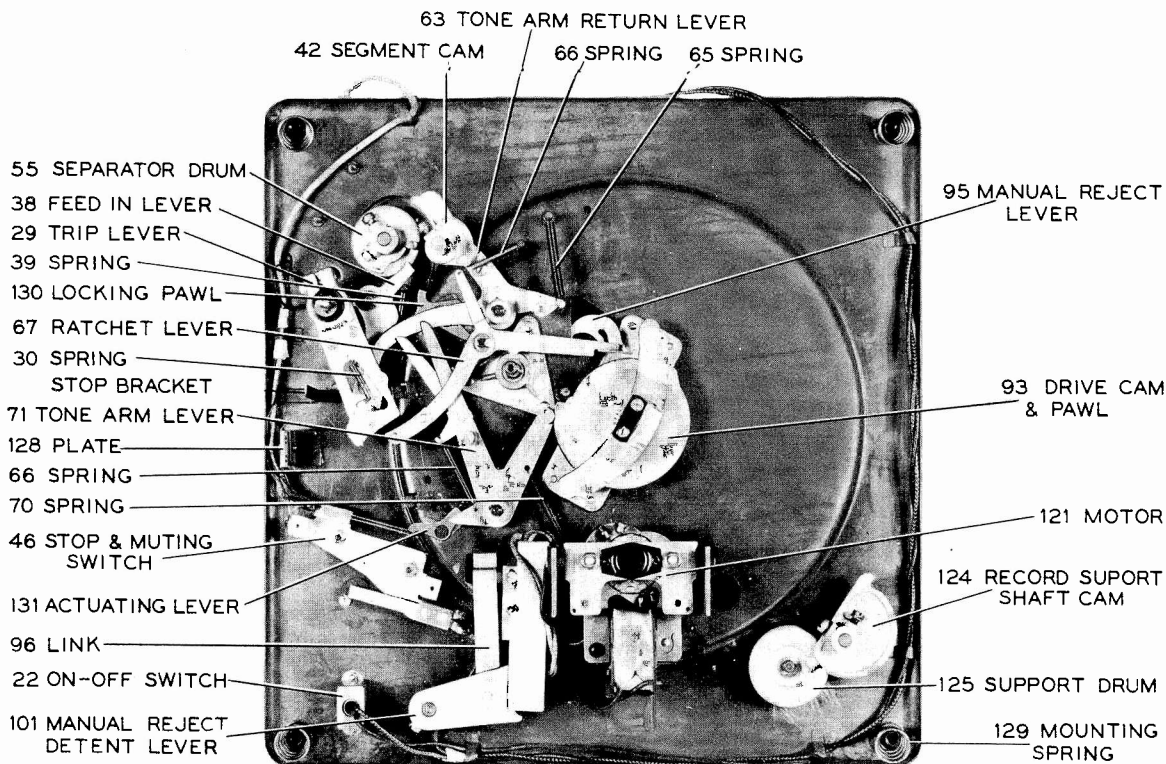

FIG. 1
Tone Arm Moves Out	1. Tone arm lever pushes on trip lever stud. 2. Trip lever moves out. 3. Stud on trip lever, on its outermost swing, pushes feed-in lever into locking pawl (130) (fig. 1). 4. Tone arm return lever is carried along by trip lever stud, and by stud on main cam top track.